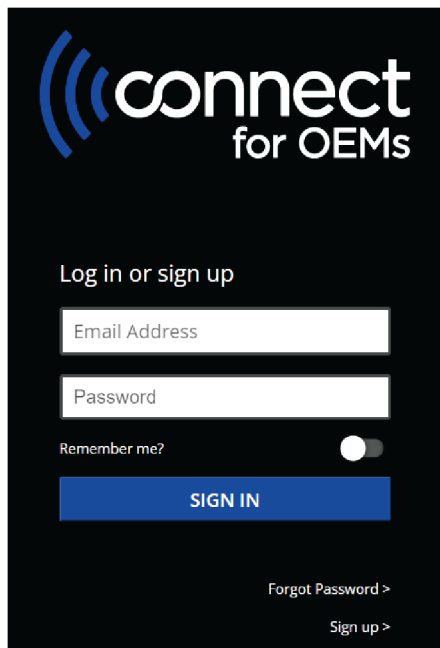

Fig. 19 — Connect for OEMs
1. After downloading the WIFISat App, select **USER SETUP** and **Register New Account**. See Fig. 19.